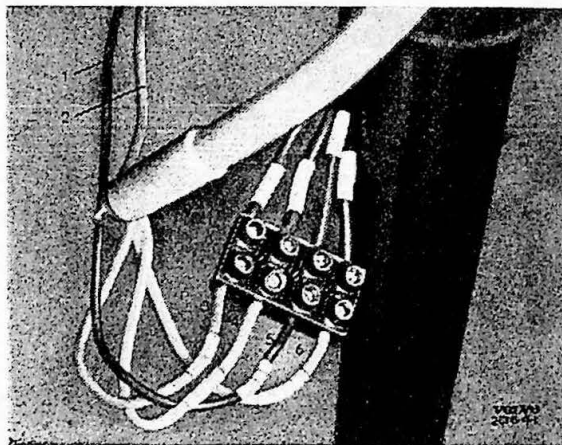

Fig. 20.
4. Disconnect the cables (1 and 2, fig. 20) from the blinkers and the cables (3—6) at the connector (7). Mark all cables to ensure correct reconnection.